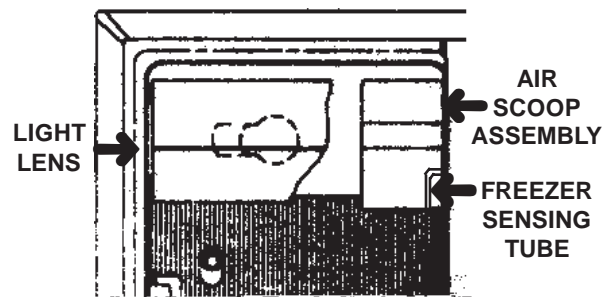

Figure 23
2. Remove the screw securing the plastic covering over the Baffle Module. (Fig. 23)
4. Remove the light lens and air scoop assembly from the back of the freezer section. (Fig. 23)